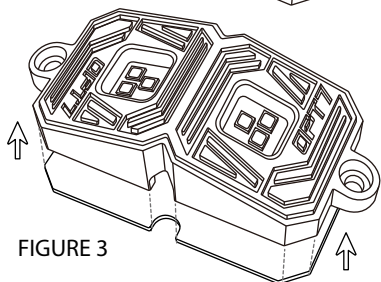

FIGURE 3
- OPTION 3 Use "VHB Double-Sided Adhesive" for mounting as shown in Fig. 3